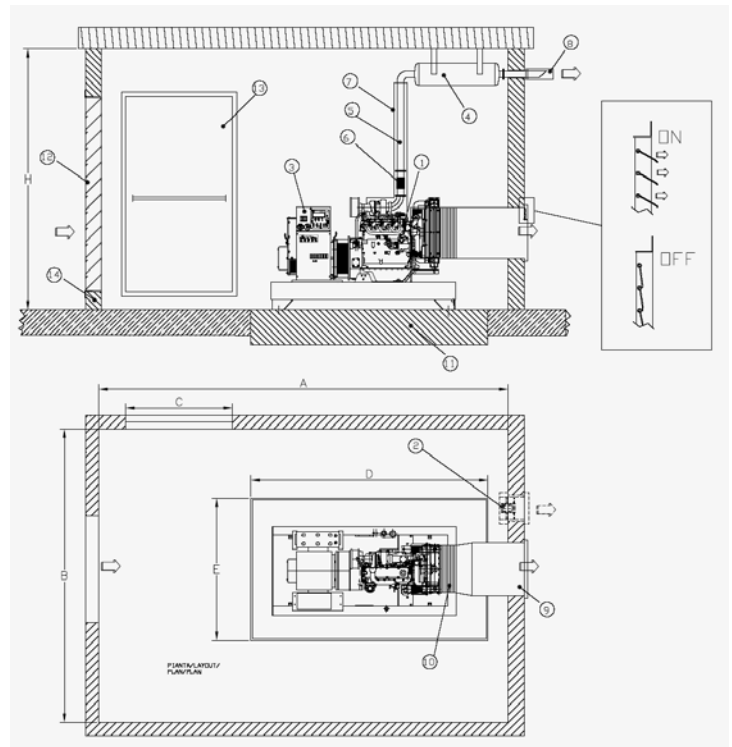

fig. no. 6
If openings for air flow are not aligned with the genset it may be necessary to add air conduits to avoid any air dispersion (see figure no. 6).
**WARNING:** to avoid reflux of heated air and loss of load, add an air duct between radiator and opening, as per detail see figure no. 6, item no. 9.